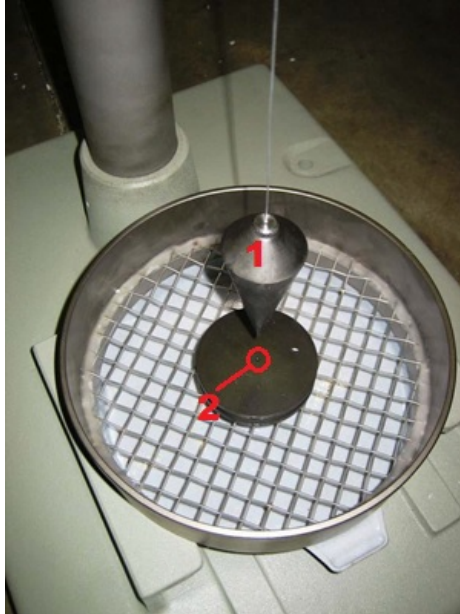

Figure 5: Showing plumb bob (1) alignment on the center of the target (2) in order to properly level the Shatter Index Tester.
2. Using the plumb bob as a guide, raise or lower the four adjustable rubber feet on the bottom of the Shatter Index Tester until the center of the target is in line with center of the specimen tube stripping post as shown in Figure 5.